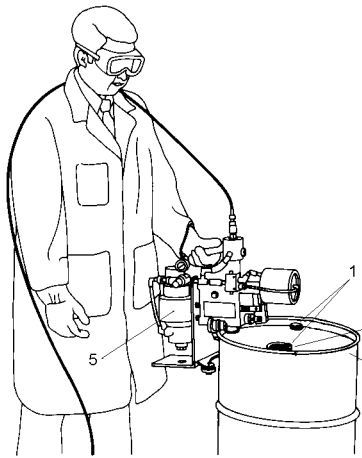

Figure 1
1. See Figure 1. Remove the plugs from the bung fittings with a WIZARD WRENCH (1 and 2).
3. Straighten any bent chime using a WIZARD Dekinker or hammer them into original contour (3).
2. Check the unit for proper cutter height position. The cutter height position is factory set; however, you may need to make some minor adjustments. Please refer to section (4) before continuing.
3. Refer to Figure 1. Turn the adjusting screw handle (4) clockwise until the cutter wheel just touches the chime (3). The cutter wheel must not bite into metal at this point. Excess pressure prevents the electric or air motor (5) from reaching operating speed which may overload motor. The Warranty does not cover motor damage caused by overload.